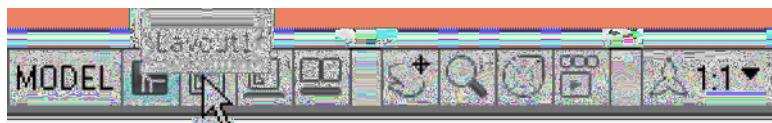

Fig. 19.6 First example – the **Layout1** button in the status bar
3. Click the **Layout1** button in the status bar (Fig. 19.6). The screen changes to a **PSpace** layout.